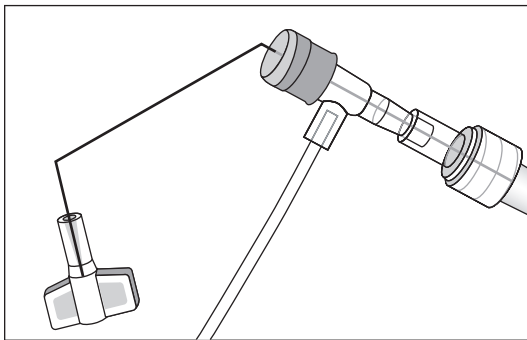

Figure 4
- Kink proximal end of placement wire at connector with side-port (see Figure 4). This minimizes the risk of placement wire extending beyond distal tip of catheter during insertion. (Do not attempt to advance placement wire through septum.)